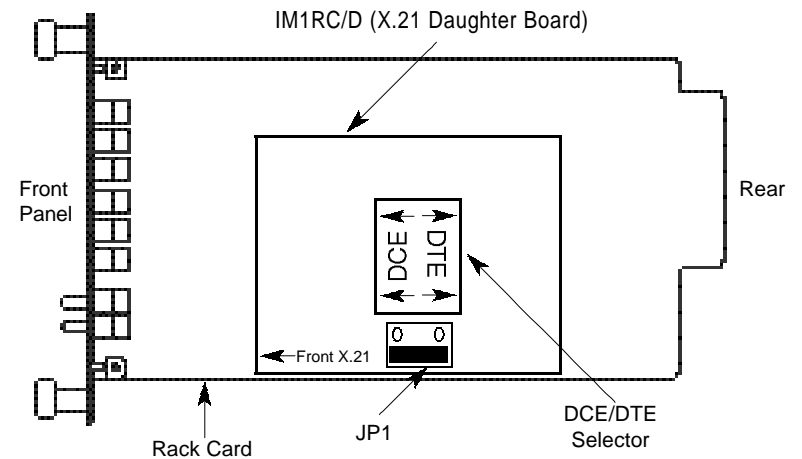

Figure 1. View of X.21 Daughter Board, DCE/DTE Selector and JP1
Figure 1 (below) shows the X.21 daughter board, DCE/DTE selector and jumper (JP1) location with respect to the rack card. Following figure 1 are guidelines for the installation of the X.21 daughter board, setting for DCE/DTE and a brief description on Jumper JP1.
2. Install the X.21 daughter board onto the front card with the "**Front X.21**" arrow pointing to the front panel of the rack card, see figure 1.
The X.21 daughter board operates at speeds up to 2.3Mbps. When using the daughter board at data rates of 2Mbps or higher, clocking issues may introduce bit errors. Bit errors can also occur when long cables are used to interconnect the modem to an X.21 terminal device (router, mux, etc.) To solve bit error problems due to speed and/or long cables, the X.21 daughterboard is equipped with a jumper selector (JP1) that changes the sampling edge of the transmit clock. Please refer to figure 1 (for Jumper JP1 Location).
Normal Setting: Jumper shorts the two outer pins of JP1. Figure 1 shows default position. This position is selected when operating at low data rate (less than 2Mbps), and using a short X.21 terminal cable.